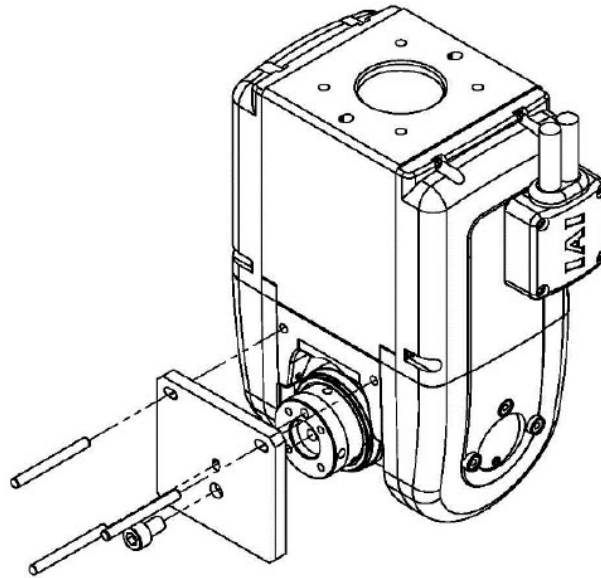

Figure 8.2-7 Wrist unit S / M standard posture
- 5) The Jog to Interference Avoidance Posture screen is displayed. Click and to move the B and T axes closer to the reference posture. Refer to [Fig. 8.2-7] for the standard posture of the B and T axes. Also, change "Vel" and "Inc" as necessary. Click when it is near the standard posture. To manually approach the standard posture, just click .